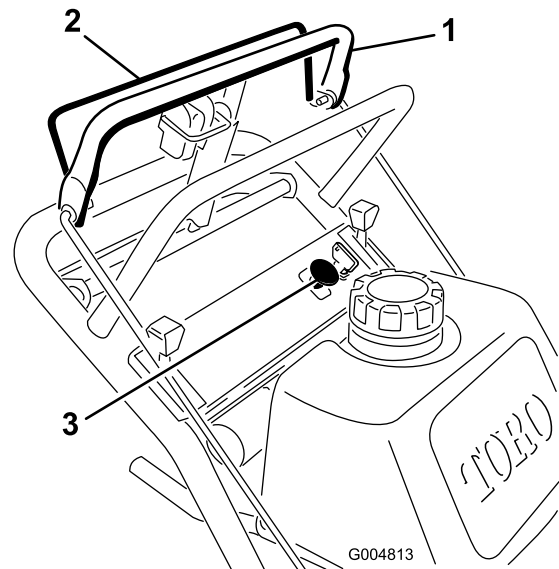

Figure 9
- Release the upper control bar to stop the machine (Figure 9).
- To engage the blades, squeeze blade control bail against the upper control bar (Figure 9).
Release the blade control bail to disengage the blades (Figure 9).